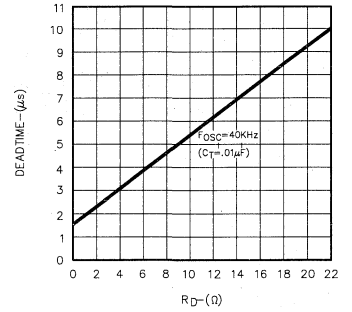

FIGURE 6. OUTPUT DRIVER DEADTIME VS.  $R_D$  VALUE STABILITY
2. If more dead time is required, select a larger value of  $R_D$  using Figure 6 as a guide. At 40kHz dead time increases by 400nSec/ohm.